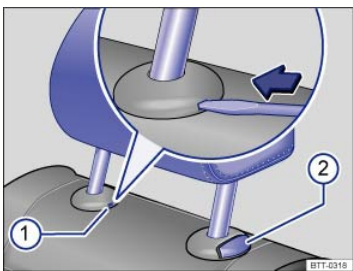

Fig. 42 Removing the rear head restraints.
- Press the flat blade of the screwdriver from the vehicle tool kit into the slit of the trim cap → Fig. 42① in the direction of the arrow and hold it in this position.
- At the same time press button ② while a second person pulls out the head restraint completely.
- Push the head restraint down while pressing button → Fig. 42②.